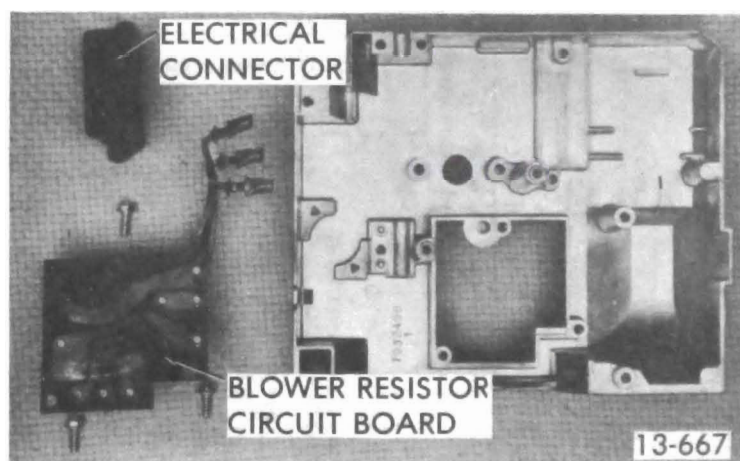

Figure 13-152 Blower Resistor Circuit Board - Removed
1. Replace electrical terminals and electrical body connector and tighten the two (2) retaining screws. See Figure 13-152.
2. Replace the three (3) retaining screws on the blower resistor circuit board, making certain that the single ball bearing is kept located in the bearing cup.